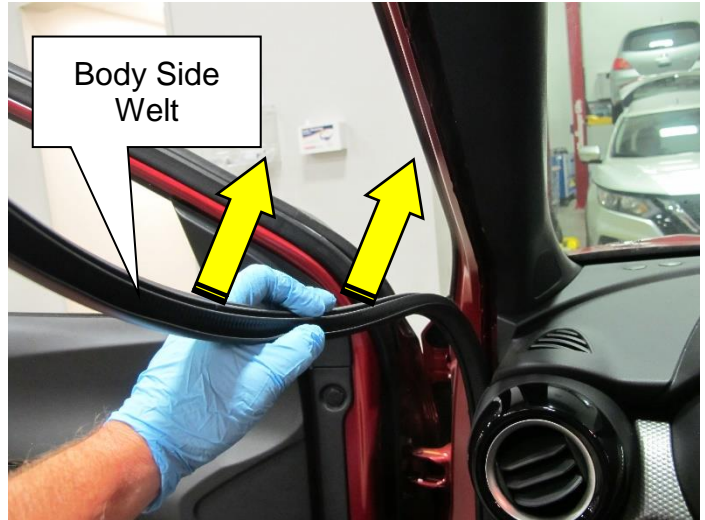

Figure 15
14. Install the driver's door body side welt to door frame (Figure 15).